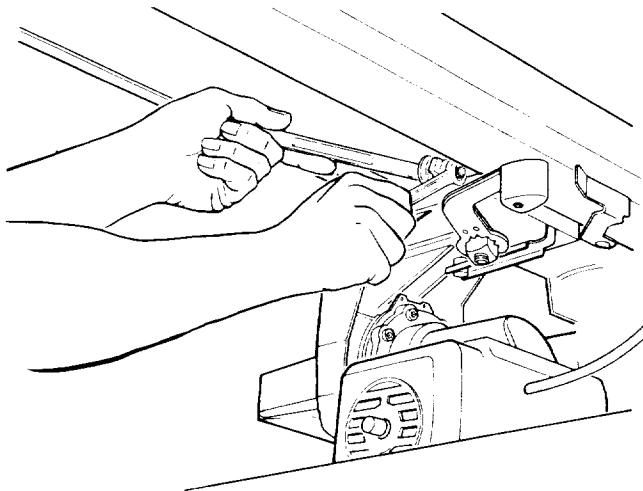

Fig. 116
6. Loosen the hex nut on the *rear carriage bearing*. Use a 9/16 inch wrench to hold the bolt and a 1/2 inch wrench to loosen the nut. (Figure 116)